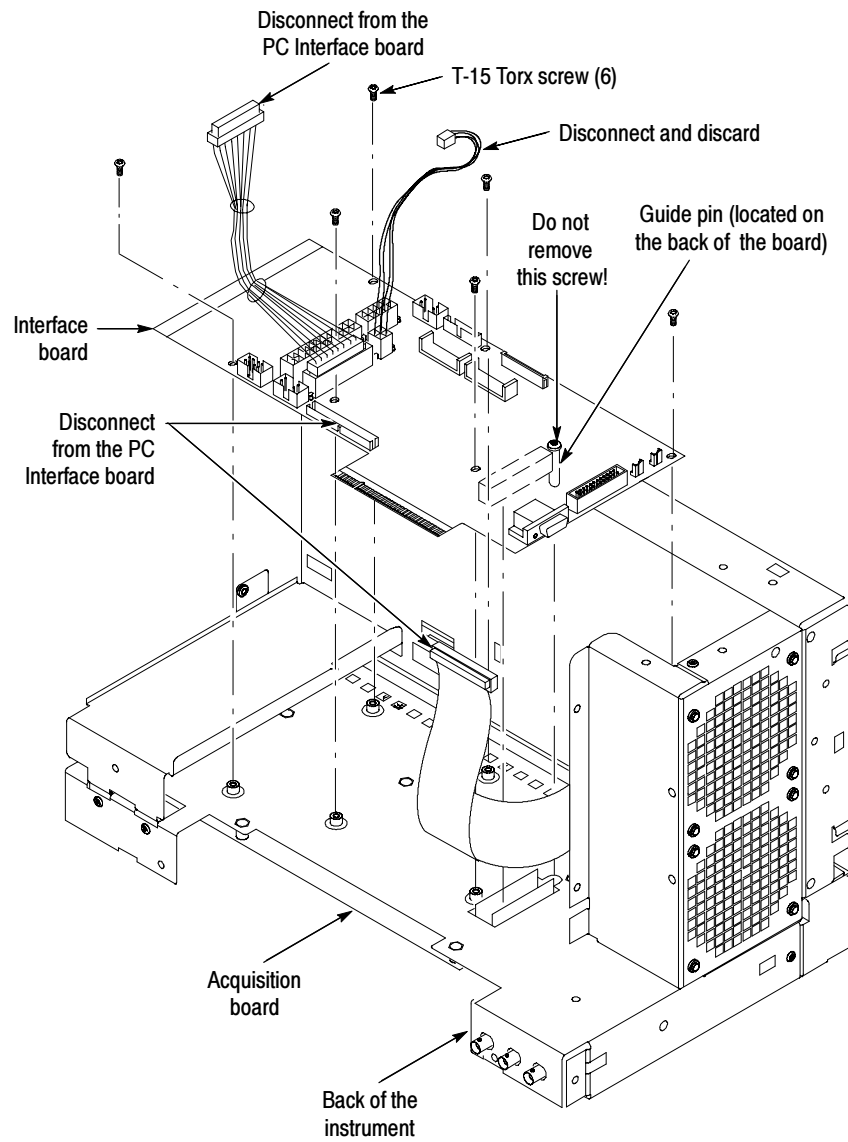

Figure 12: PC Interface board removal
2. *Remove the PC Interface board:* See Figure 12, on page 22.
CAUTION. *Do not remove the screw next to J1800 (See Figure 12 on page 22). The screw secures an indexing pin used to align the J1800 connectors together.*
- g. Grasp the PC Interface board near J1800 (see Figure 12) and carefully pull the board up to disconnect J1800. Once you have cleared the connector, remove the board from the chassis.
5. Reconnect all other cables to the PC Interface board (see Figure 1 on page 8 and Figure 12 on page 22 as necessary to reinstall all the cables to the PC Interface board).